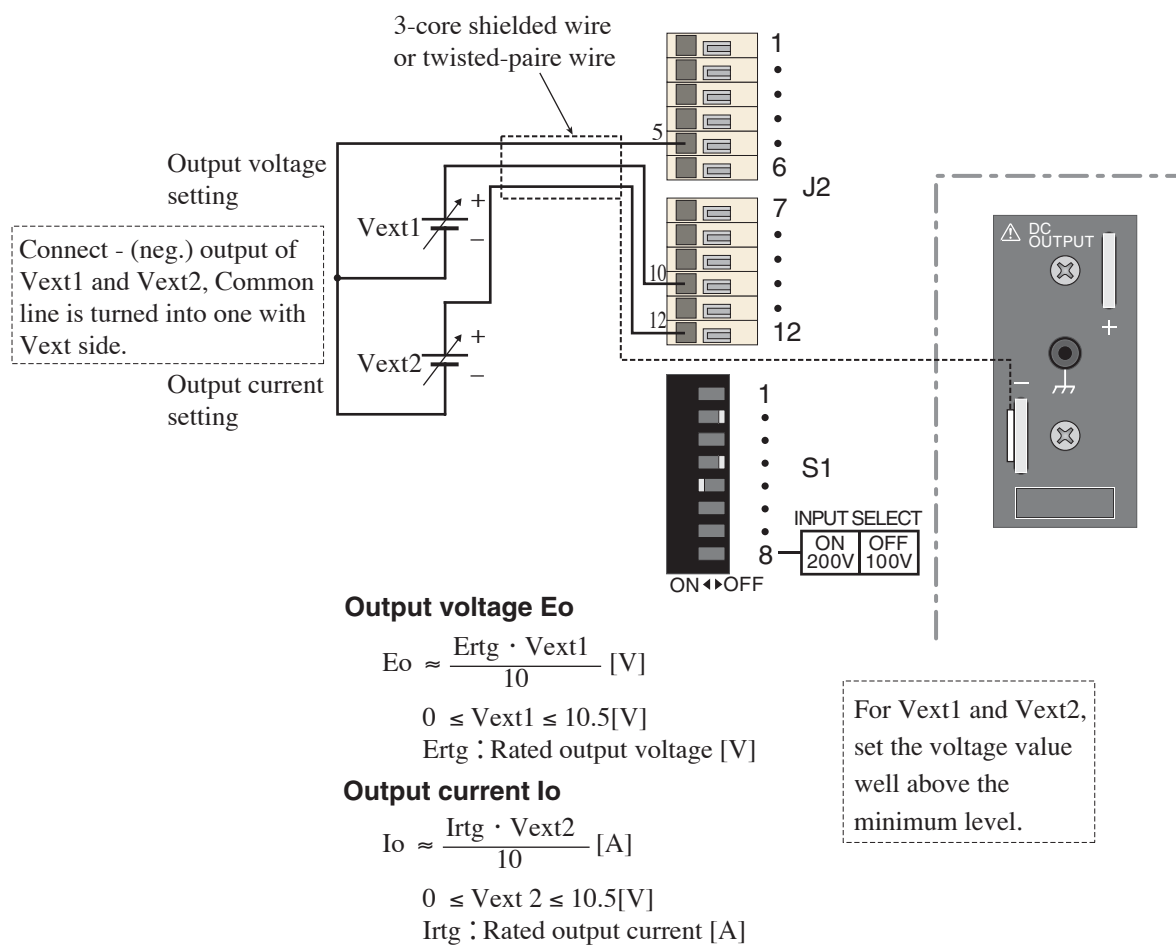

Fig. 4-8 Connection for Control 2
- Fig. 4-8 shows the general relationship between Vext1 and the output voltage Eo and between Vext2 and the output current Io. But since they are approximate formulas, if you need precise zero and maximum values for output values, adjust the Vext1 and Vext2 values.